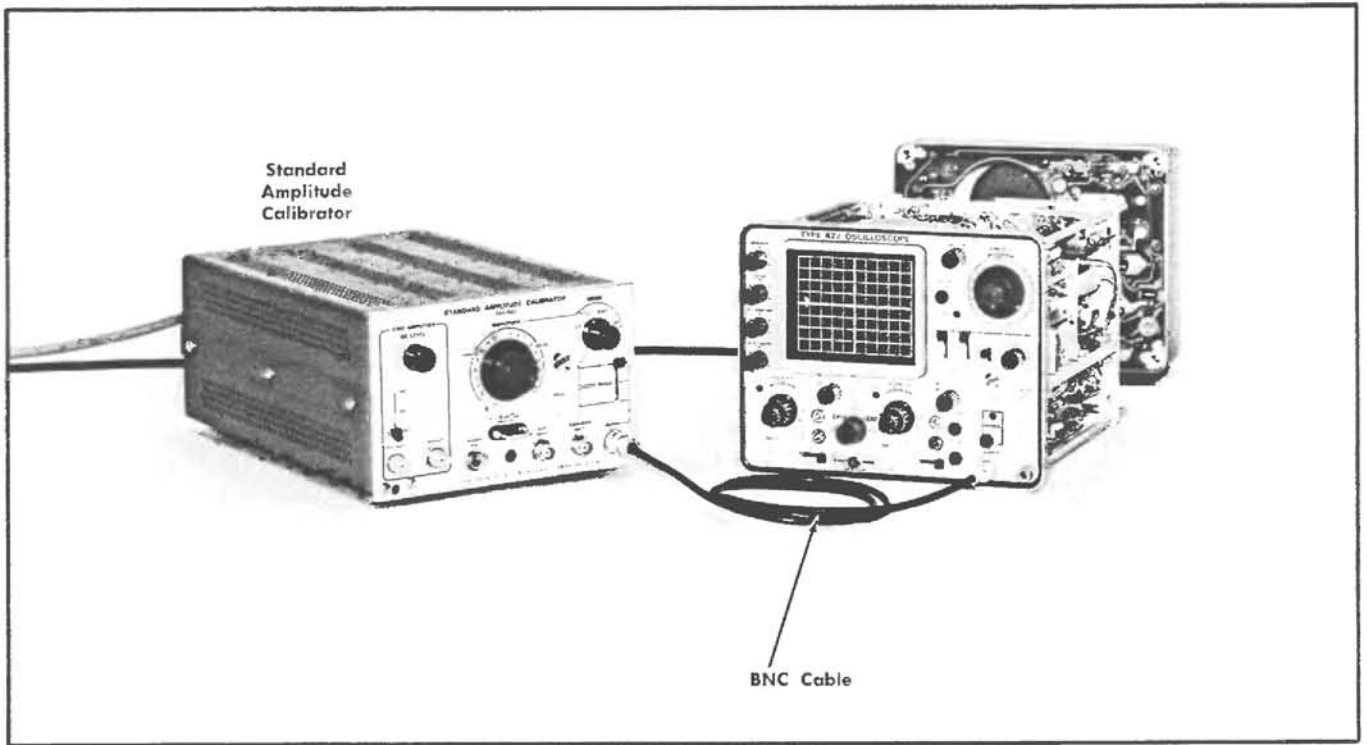

Fig. 6-51. Initial test equipment setup for steps 48 and 49.
- a. Test equipment setup is shown in Fig. 6-51.